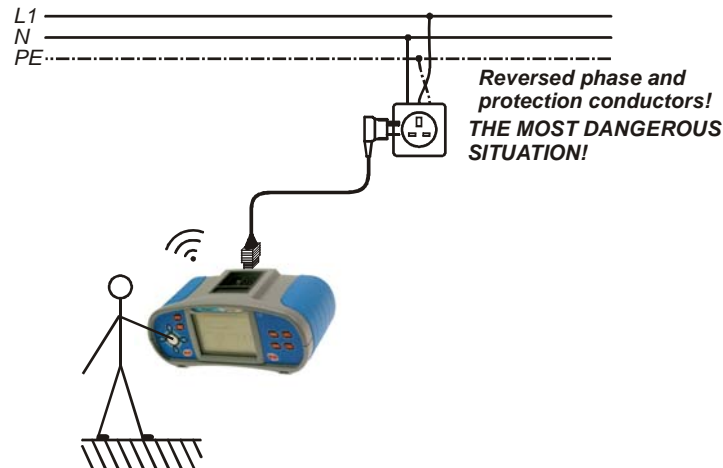

Figure 5.57: Reversed L and PE conductors (application of plug cable)
- ❑ **Connect** test leads to the tested object (see figures 5.57 and 5.58).